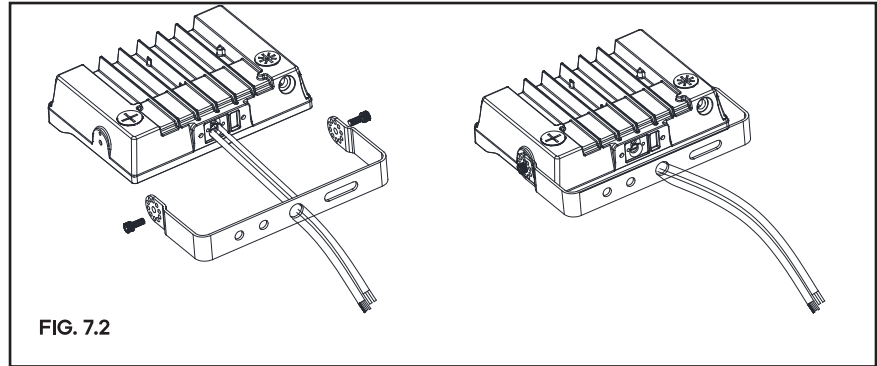

FIG. 7.2
STEP 2. Tighten the brackets and screws. **FIG. 7.2**